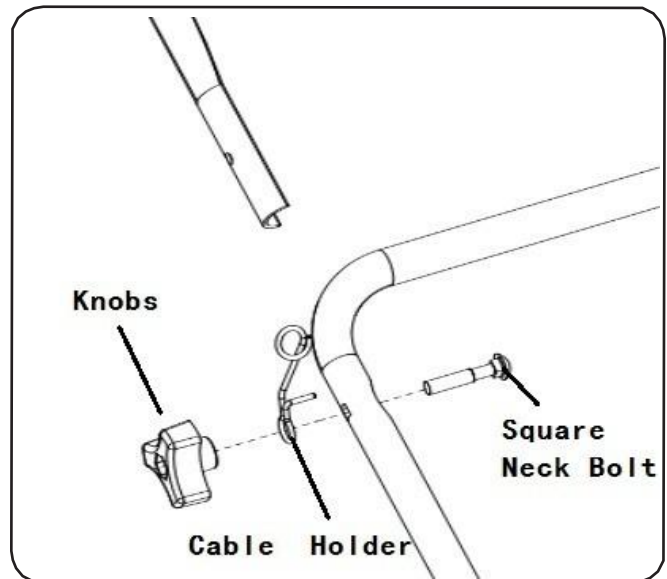

Figure 3-3
2. Secure the upper handle to the lower handle using the carriage bolts and locknuts from Group 4 of the hardware pack. See Figure 3-3.